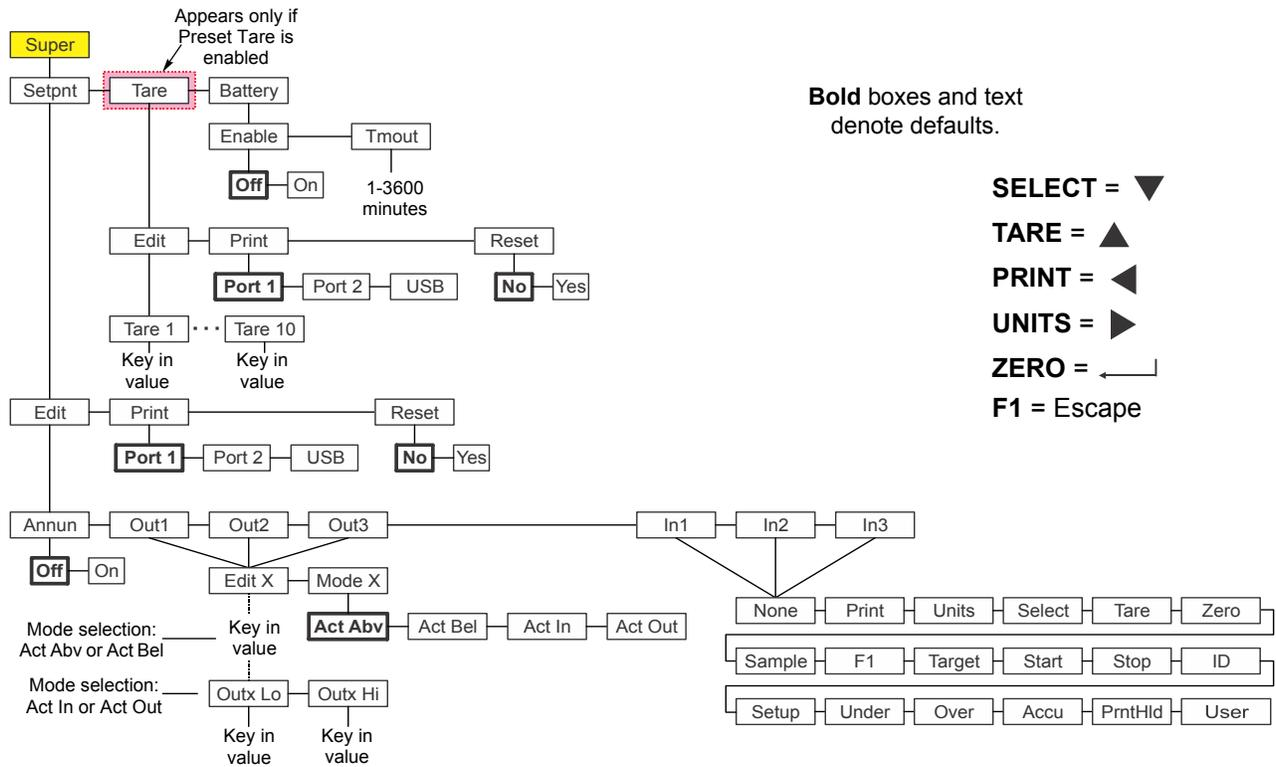

Figure 7.1 Supervisor menu for the General Weighing application
Figure 7.1 shows the Supervisor menu when you are in the General Weighing application.
**in1** is displayed. This stands for input 1. Use this to assign a function to input 1 when an external switch is tripped. Default choice is **none**. The choices are listed in Figure 7.1.
*Inputs are enabled (ON) in a separate password protected menu. Some input choices will not apply in the application that is active.*